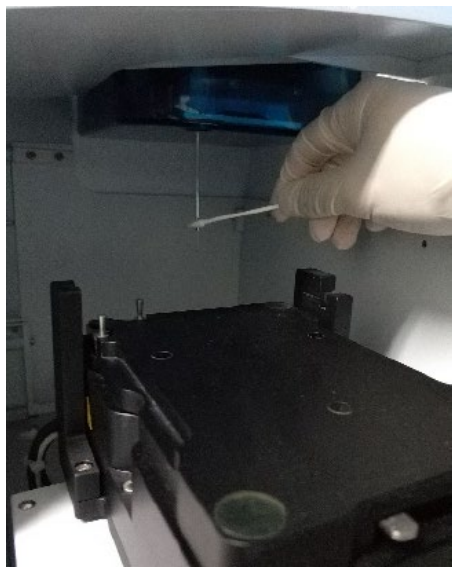

Figure 50. Wipe the Outer Surface of the Sample Injection Probe with NovoSampler Q Installed
- 4 Prepare a cotton swab or a damp soft cloth with NovoClean solution (1X) and gently wipe the outer surface of the sample injection probe (Figure 50).